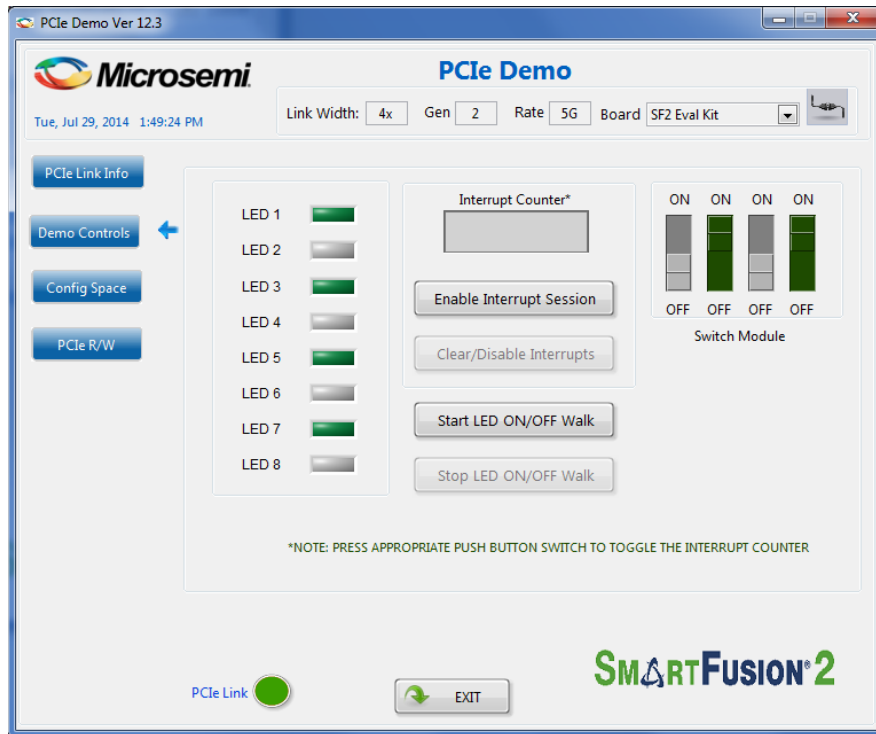

Figure 63 Demo Controls
5. Click **Demo Controls**. Figure 63 shows the LED options and DIP switch status.